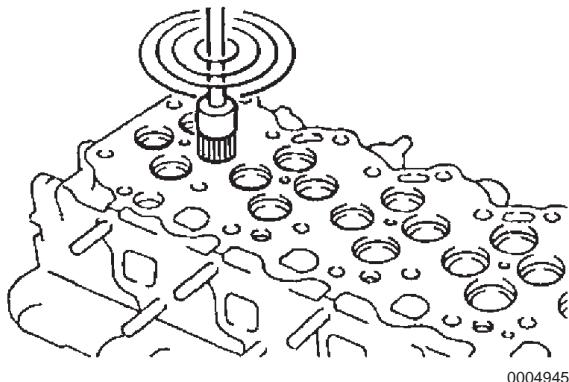

Figure 5-20
5. Remove all carbon deposits from the intake and exhaust valve seats, using a wire brush (Figure 5-20). *NOTICE: AVOID damaging the valve seat surfaces during cleaning.*